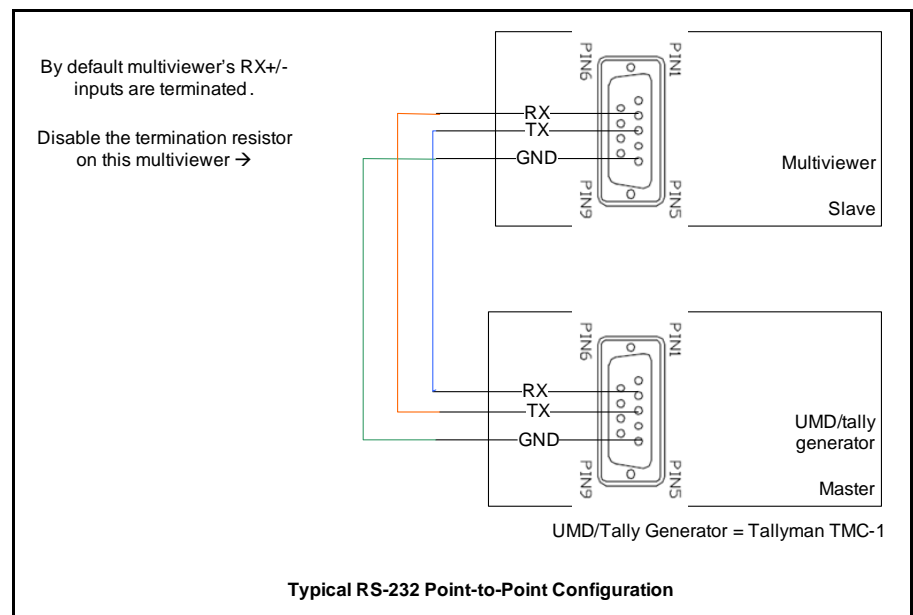

Figure C-4. Typical RS-232 Point-to-Point Configuration
- RS-232 cable connection between a multiviewer (COM 1–4) and a UMD/tally device (see Figure C-4 on page 90)